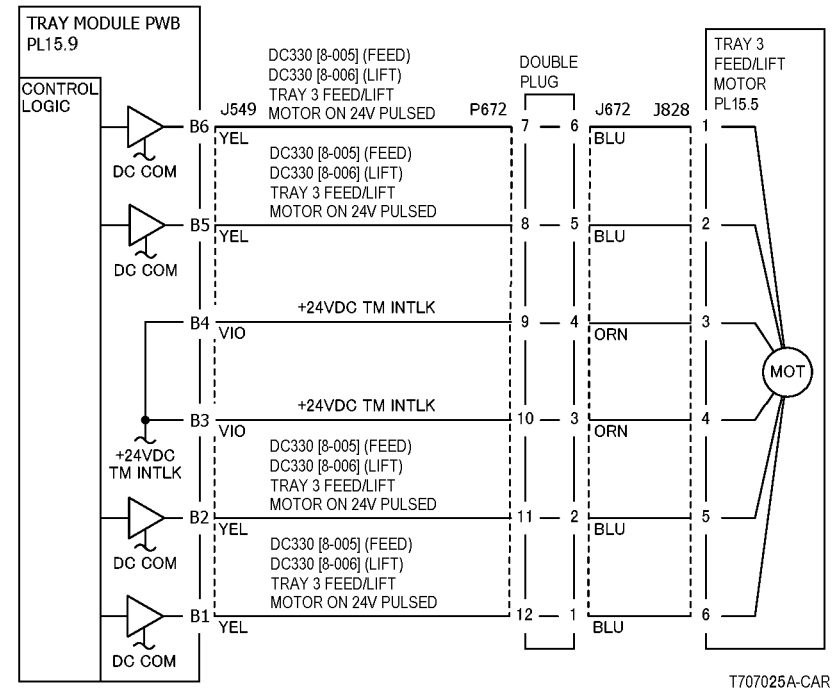
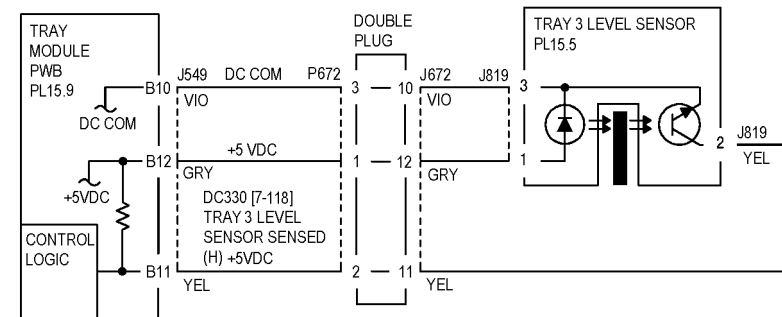

Figure 1 Tray 3 Feed/Lift Motor CD
Figure 2 Tray 3 Level Sensor CD
- Ensure that the connectors shown in the circuit diagrams (Figure 1, Figure 2) are securely connected and that the wires are not damaged.